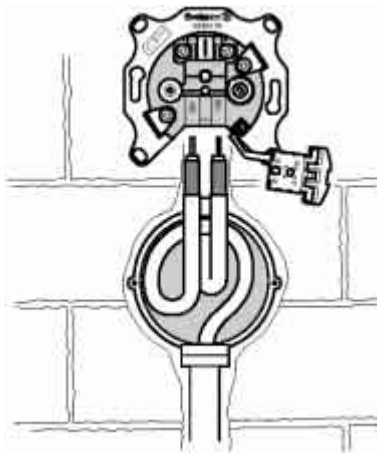

Fig.: 3
3. Install the coaxial cables acc. to Fig. 3.